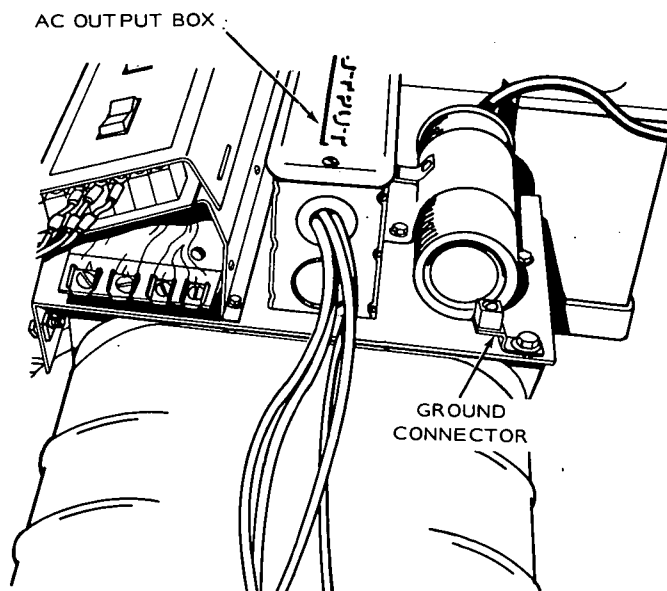
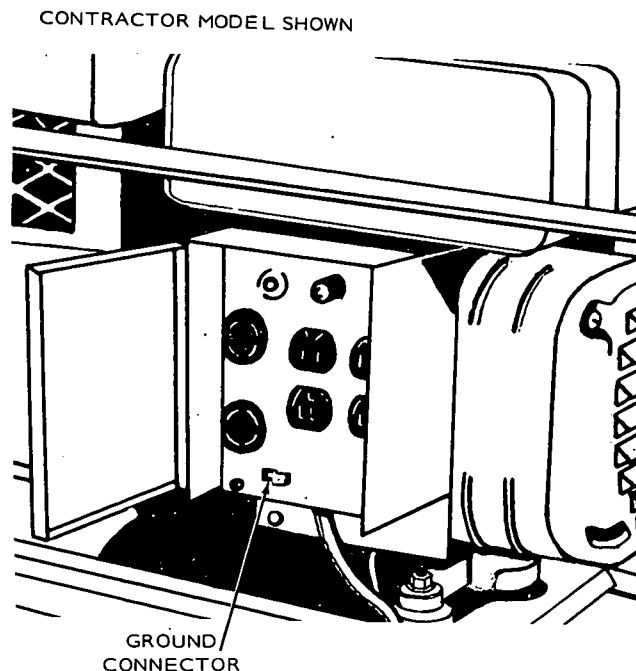

FIGURE 9. LOCATION OF AC OUTPUT BOX AND GROUND CONNECTION
FIGURE 10. GROUND CONNECTOR ON CONTRACTOR AND PORTABLE MODELS
Meet all applicable code requirements. A qualified serviceman or electrician should make the installation and the installation should be inspected and approved. The AC output box has provisions to accommodate load wires (Figure 9). Use flexible conduit and stranded load wires near the set to absorb vibration. Use sufficiently large insulated wires. Strip the insulation from the wire ends as necessary for clean connections. Connect each load wire to the proper generator output lead inside the AC output box. Insulate bare ends of ungrounded wires. Install a fused main switch (or circuit breaker) between the generator set and the load.
2. the solderless connector located on the top of generator (Figure 9) or on the receptacle box for the contractor and portable models (Figure 10).